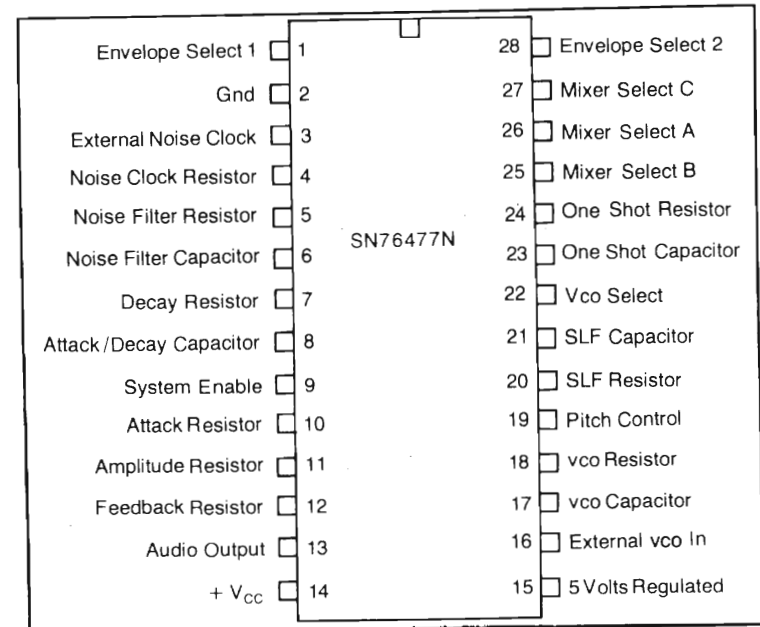

Fig. 3-71. SN76477 Sound Effects Generator.
• **SN76477/88 Sound Effects Synthesizer.** Many sound effects can be created with a relatively new IC device from Texas Instruments (and distributed by many dealers). This is the SN76477 Sound Effects Synthesizer chip. Its pin-out diagram is shown in Fig. 3-71.